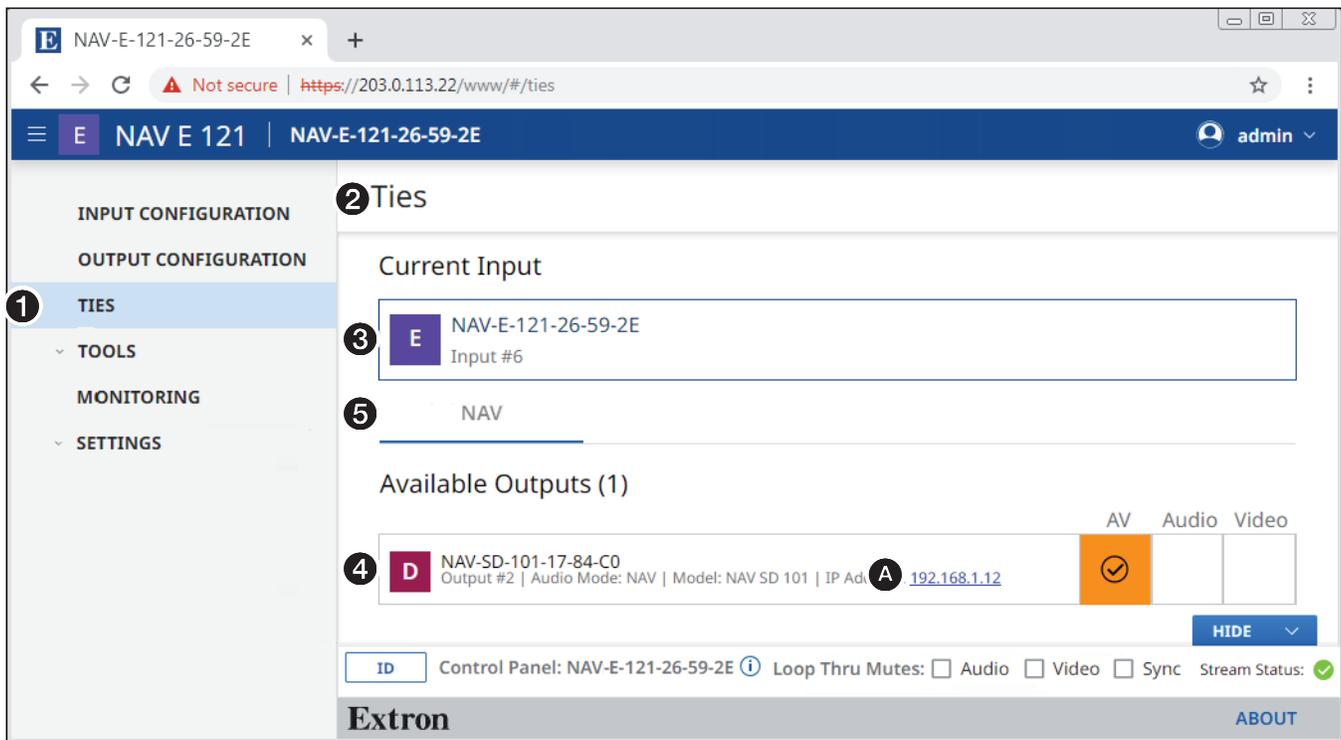

Figure 19. Ties Page
Access the **Ties** page (see figure 19) by clicking the link on the left side of the browser (1). The browser displays the **Ties** panel (2), which allows you to display AV ties and display and make USB ties.
The Available Outputs pane (see figure 19, ④ on page 25) displays the output number, audio mode, model, and IP address of all decoders available for tying to this encoder.